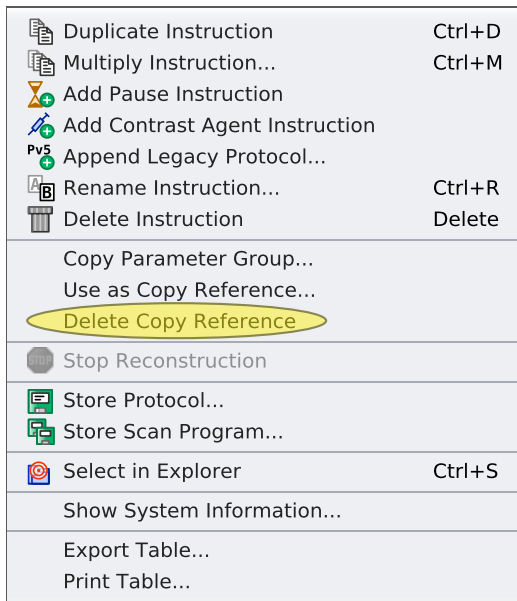

Figure 1.27: Context Menu Examination Card
2. Open the context menu (see Figure 1.27 [▶ 50]) and invoke **Delete Copy Reference**.